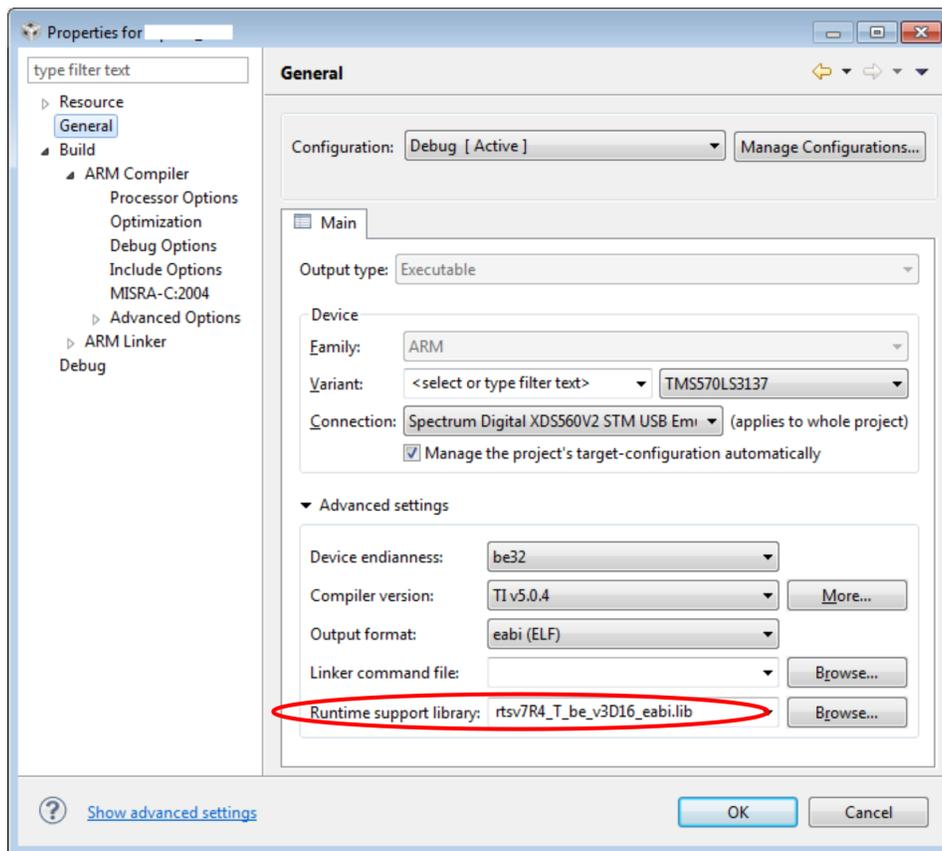

Figure 13. Runtime Library Select
3. Select runtime Library (see Figure 13).